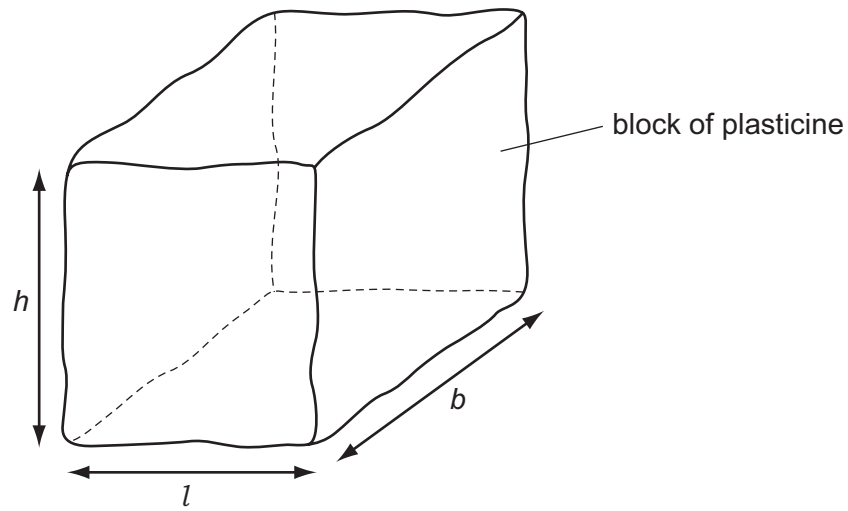

Fig. 3.1
- (a) (i) Mould the piece of plasticine into a shape that approximates to a cube, as shown in Fig. 3.1.